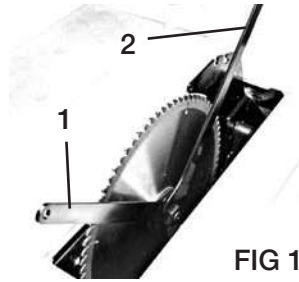

FIG 18
TO REPLACE THE BLADE (FIG 18)
3. To keep the arbor from rotating, place one of the open ended wrenches (1) on the flange flats.
4. Place the second open ended wrench (2) on the arbor nut.
5. Turn the second wrench (2) clockwise to tighten, counterclockwise to loosen. Loosen and remove the arbor nut. See FIG 18